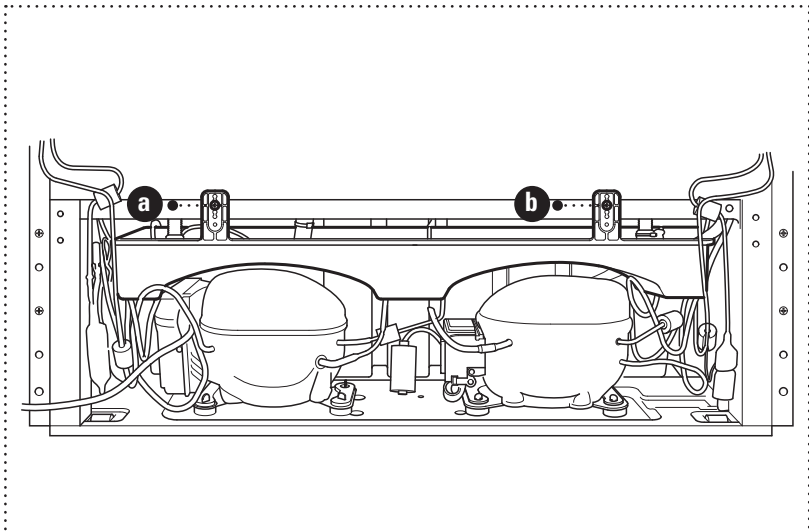

Figure 9
- 1 Remove the vaporisation container by unscrewing the 2 screws **a** and **b** (Figure 9)